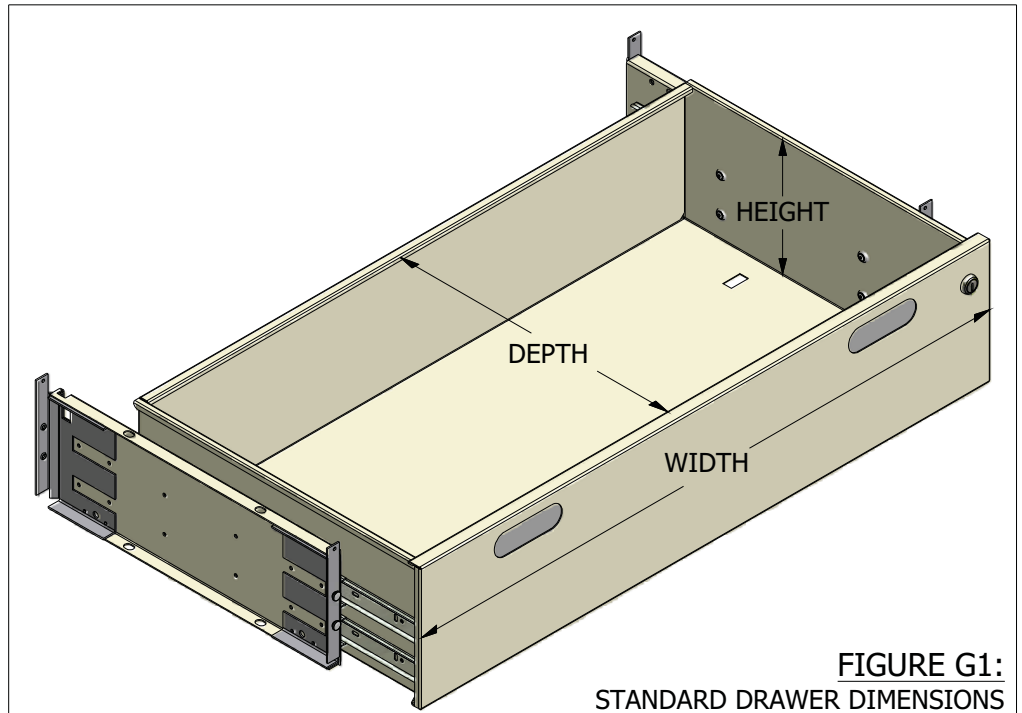

FIGURE G1:
- 1.0 DIMENSIONS GIVEN FOR ALL DRAWERS & SHELVES ARE BASED ON THE INFORMATION AS SHOWN IN FIGURE G1.